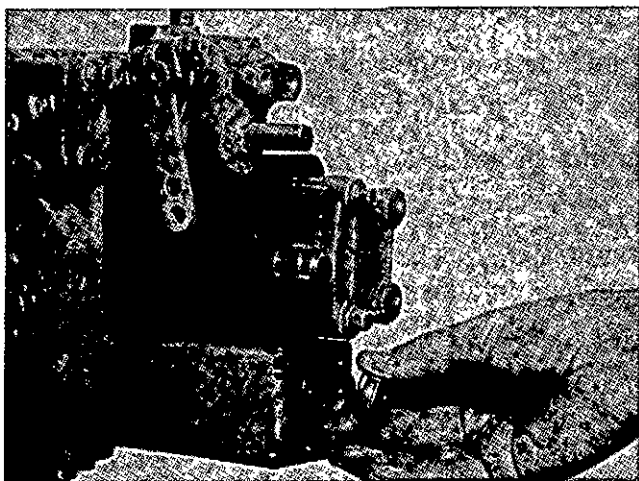

Fig. 10-38, (F5337). Shim the governor spring for high speed.
9. If the speed is too low, add shims between the governor spring and the retainer. Check Table 18-1 for the spring specifications. To reduce the speed, remove the shims. Each 0.001 inch shim thickness will change the speed approximately 2 rpm. Shims are available 0.005, 0.010 and 0.020 inch [0.13, 0.254 and 0.51 mm] thick, Fig. 10-38.